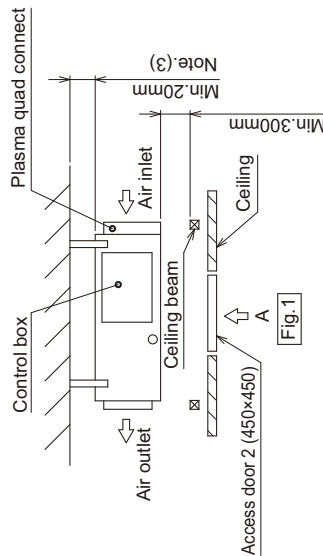
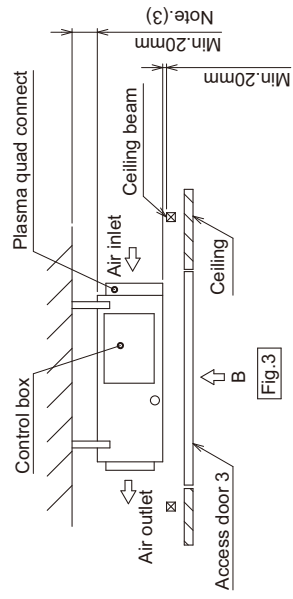

Fig.1
Fig.3
Select an installation site for the indoor unit so that its maintenance access space will not be obstructed by beams or other objects. (Fig.1)
- (1) When a space of 300mm or more is available below the unit between the unit and the ceiling. (Fig.1)
(At least 20mm of space should be left below the unit as shown in Fig.3.)
(3) For maintenance if there is more than 170mm from the top surface, the cover can be pulled out without removing the PQ attachment. (Fig.1, Fig.3)